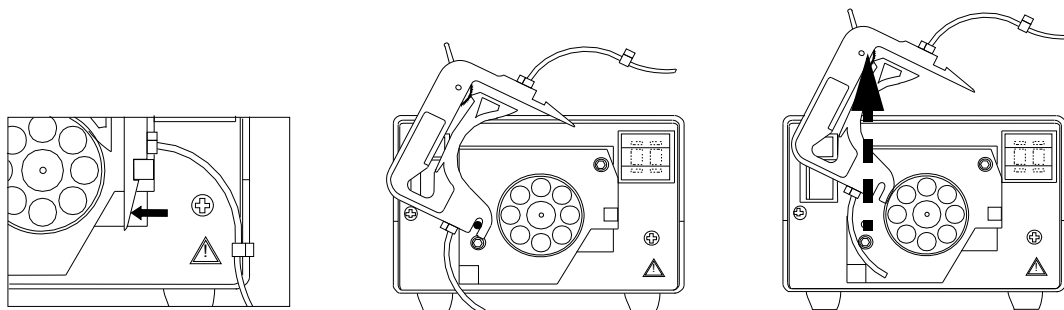

Figure 39 Removing the Tubing Cassette
- 2 Move the pressure-control lever of the tubing cassette (see Figure 39) clockwise to the right-most position, that is, the lever is horizontal.